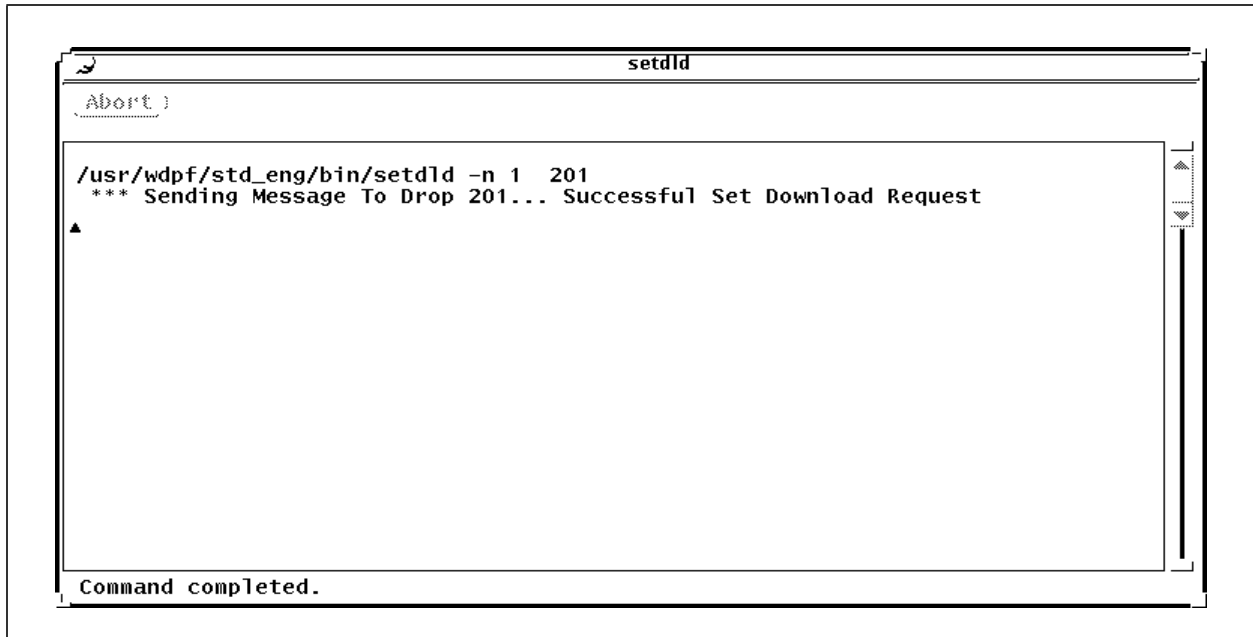

Figure 3-12. Setdl Output
3. Select the **Apply** button to initiate the set download process. A window will then display as shown in Figure 3-12.